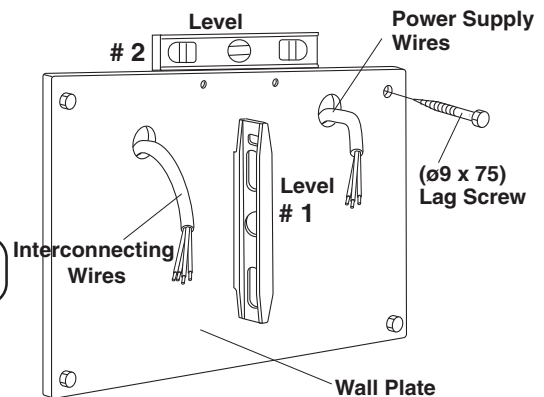

Fig.3-1 Wall Plate Installation
5. Hold the plate firmly against the wall, place a level across the front face. (#1 position in Fig.3-1)
6. Place a level across top edge of wall plate, level and tighten lag screws securely. (#2 position in Fig.3-1)